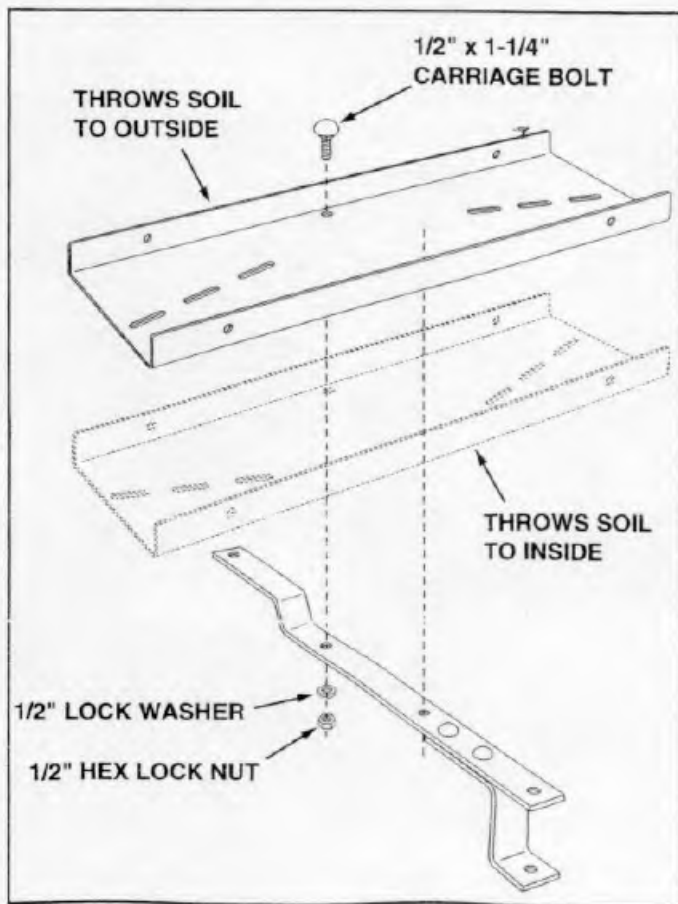

FIGURE 3
4. Position the tray with the slots angled either toward rear center or front center as shown in figure 3. (Refer to Operation section on page 6 for more information.) Assemble the drawbar to the bottom of the tray using two 1/2" x 1-1/4" carriage bolts, 1/2" lock washers and 1/2" hex lock nuts. See figure 3.